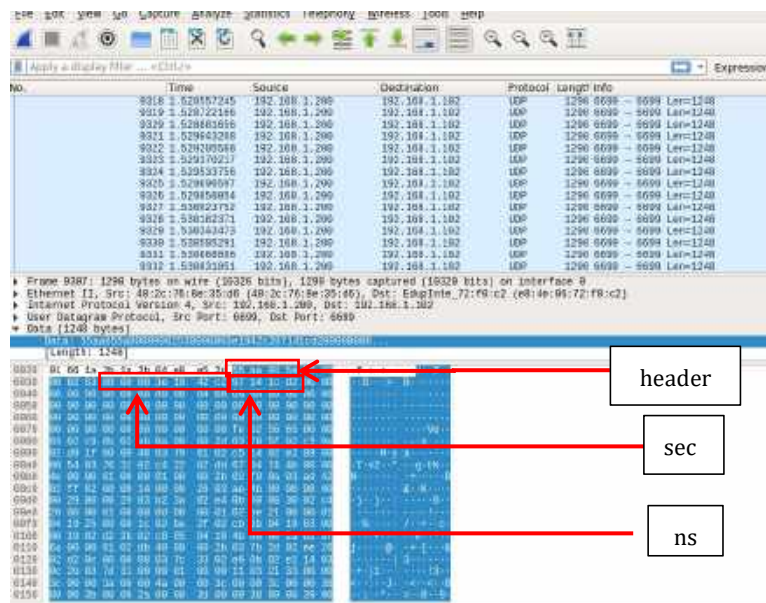

Figure 9: the Data Format of PTP.
- (1) The time stamps are divided into second part and nanosecond part. The second part shown in Figure 9 is 0x00003e1942c2(1041842882); the nanosecond part is
(2) The second part is UTC timestamp, which indicates the incremental count of seconds from 0:00 (London time) on January 1, 1970 to the current time. Figure 9 shows the identification of London time 2003/01/06 09:48:02;
(3) The maximum value of the nanosecond part is 0x3B9AC9FF(999999999), after the maximum value is increased by 1, the nanosecond returns to zero and the second will be added to 1, as shown in Figure 9 is 118758610 nanosecond;
(4) Most PC development environments have time conversion functions, such as including system library < time.h >, time.gmtime (&t) function can convert timestamp to London time.